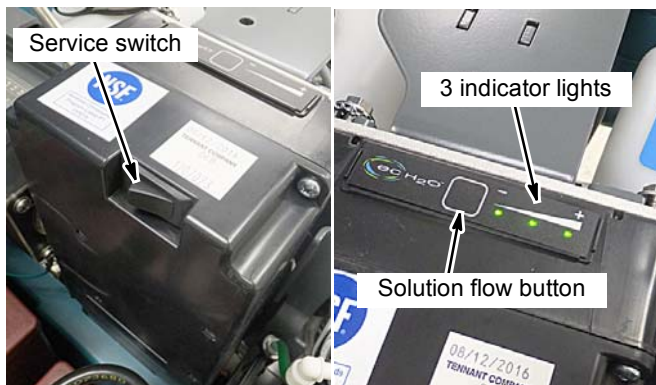

FIG. 93
- b. Press and hold the service switch, located on the ec-H2O module, for 10 seconds. After releasing service switch, the three solution flow indicator lights will begin to (ripple) move back and forth (Figure 93).
- c. Within 5 seconds after releasing the service switch, while the three indicator lights are moving back and forth, quickly press and release the solution flow button located on ec-H2O module (Figure 93).